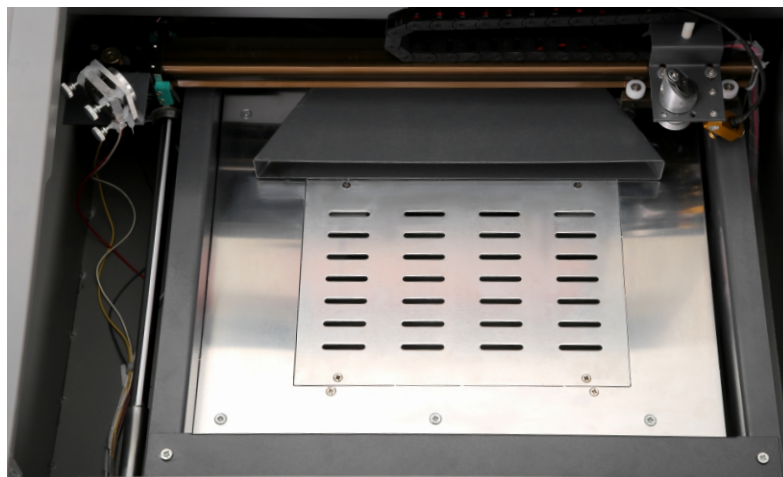

Figure 4-7 - Third Mirror in Position 2
- a. When the second and third mirrors are well-aligned in Position 1, slowly and gently move the third mirror along the Y-axis guide rail until it is in Position 2 (Fig. 4-7) far away from the second mirror.